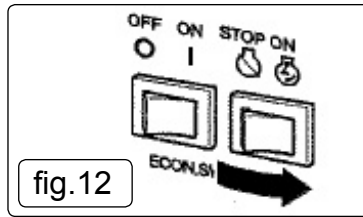

fig.12
- 4.10.3. Turn the engine switch to "ON" fig.12.